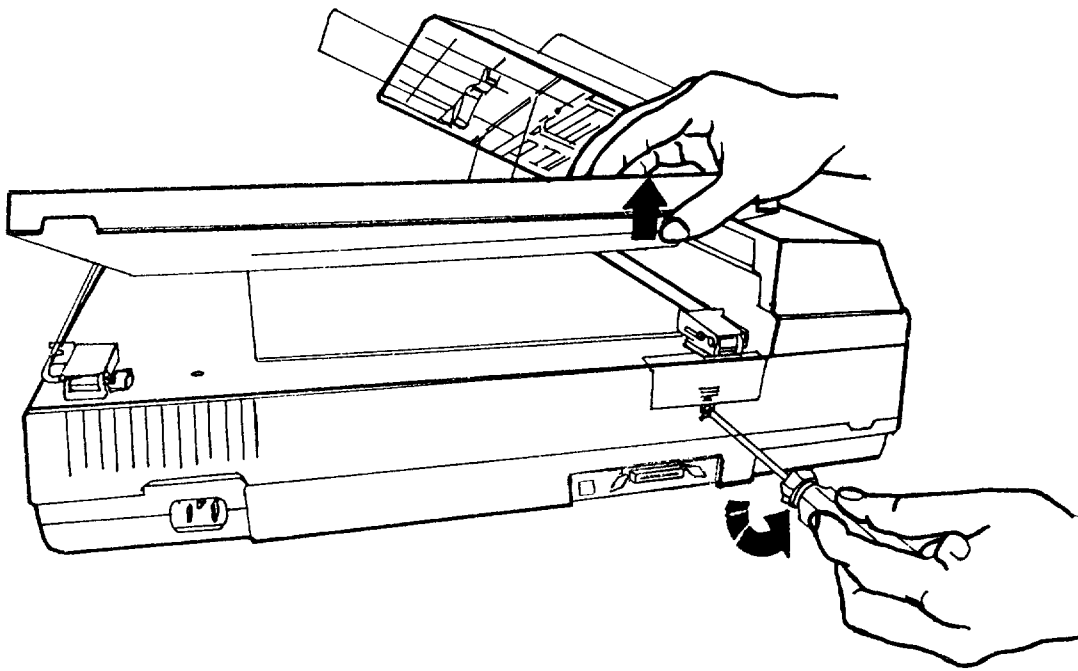

Figure 4.2 Replacement of the lamp unit:
9. Remove the screw on the rear side of the scanner as shown in Figure 4.2.